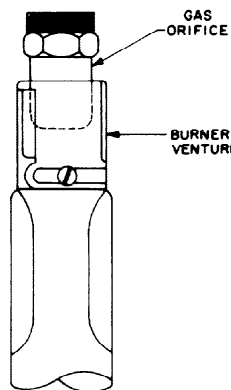

FIGURE 2
4. To replace the burners, slip the Venturi (long, thin end) over the top burner orifice and then position the burner locating brackets into the burner support channel. Reinstall burner mounting screws. (See Figures 2 and 3.)